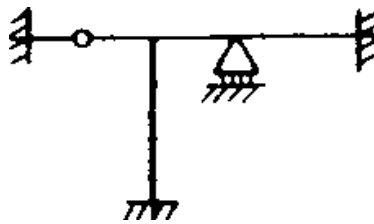

Figure 1.1
- Calculate the degree of redundancy plane frame as shown in Figure 1.1